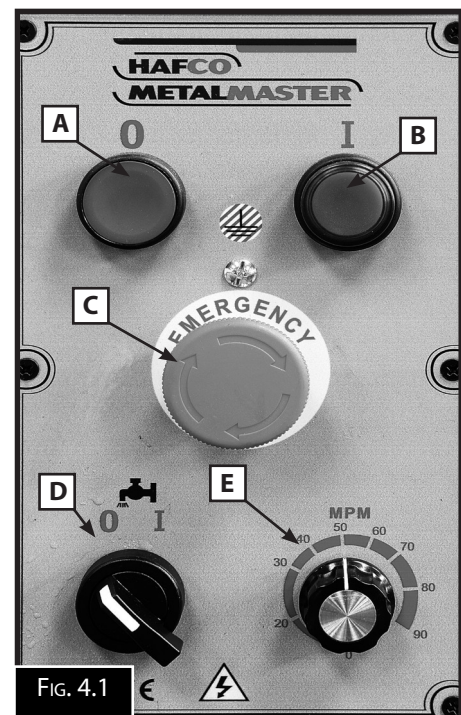

FIG. 4.1
4.1 CONTROLS (FIG.4.1)
To start the coolant turn the switch on the control panel (D in Fig.4.1) and press and hold the trigger switch, then adjust the taps. (Fig.4.7 & 4.8) Too much flow at the nozzle will make a mess of the work area and cause it to become unsafe, but too little will cause the blade to over-heat, causing the blade teeth to load up and break.